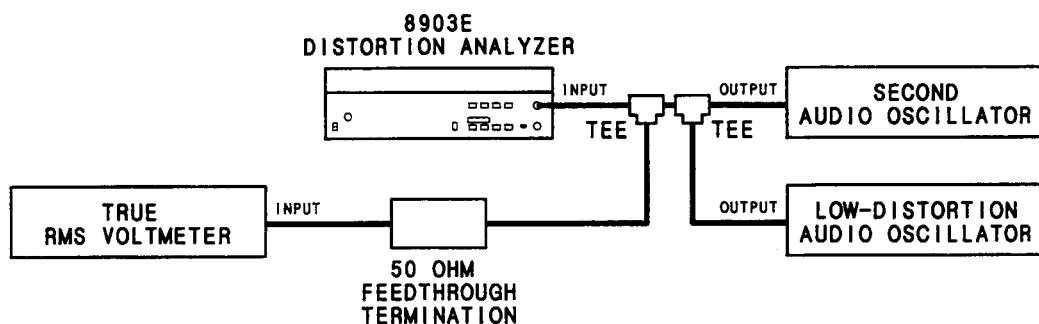

Figure 4-3. Distortion and SINAD Accuracy Test Setup
2. Connect the equipment as shown in Figure 4-3. The output impedance of both oscillators should be 50Ω . Set the voltmeter to read ac volts. Set the output of the low-distortion oscillator to 6V into an open circuit.